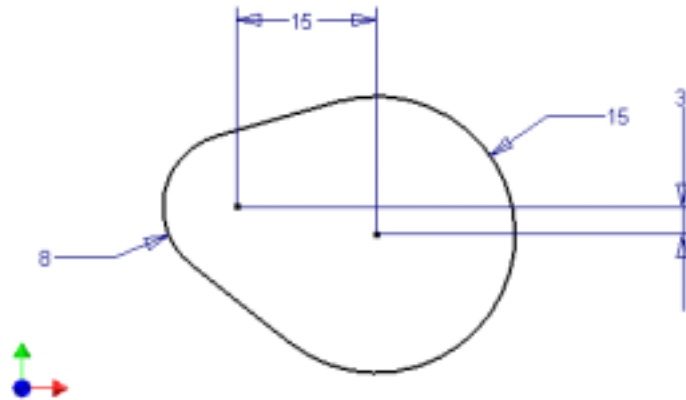

Figure 3-8
2. With reference to Figure 3-8, construct a sketch.